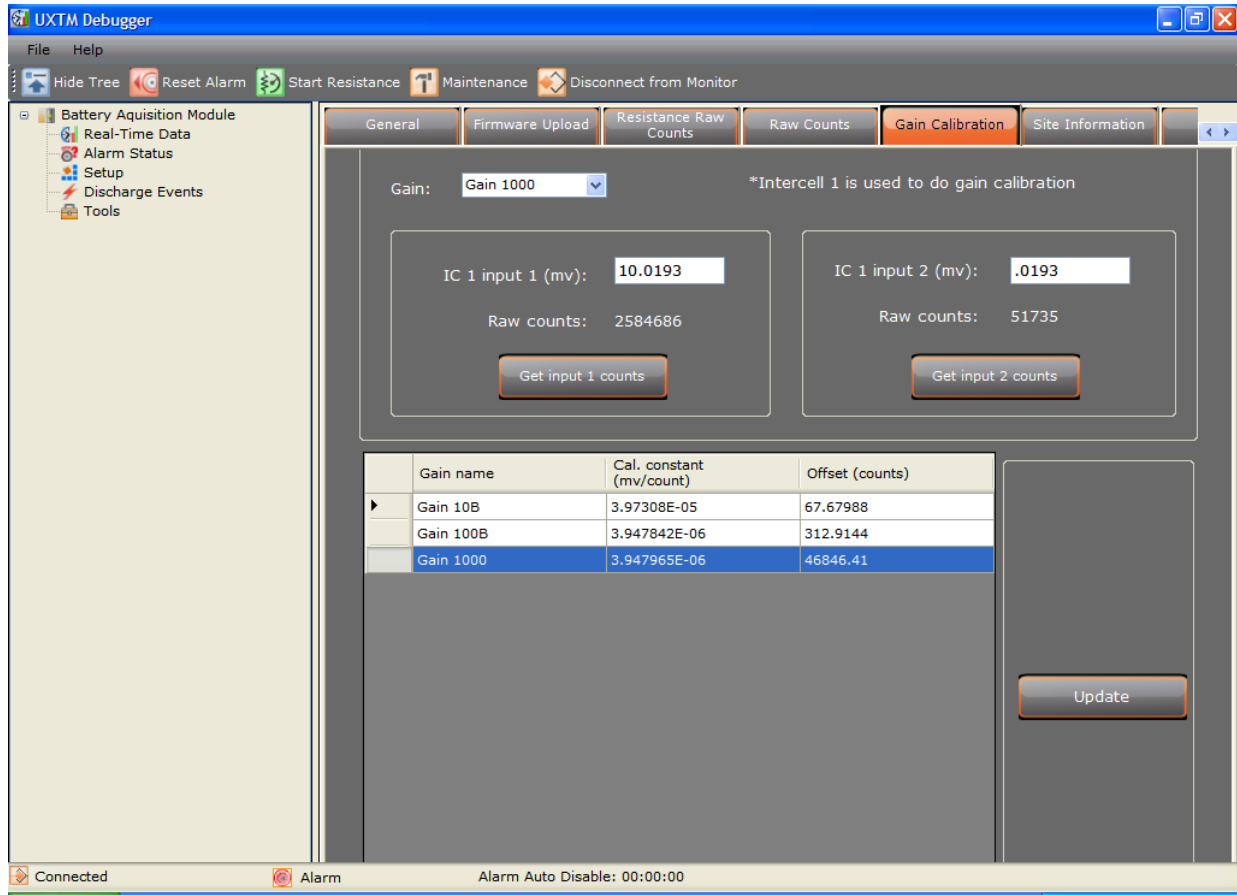

Figure 2 - Tools Gain Calibration
2. Establish a USB connection between the UXTM Configurator software and the UXTM and navigate to the **Gain Calibration** tab under the **Tools** menu of the UXTM Configurator software (see Figure 2).